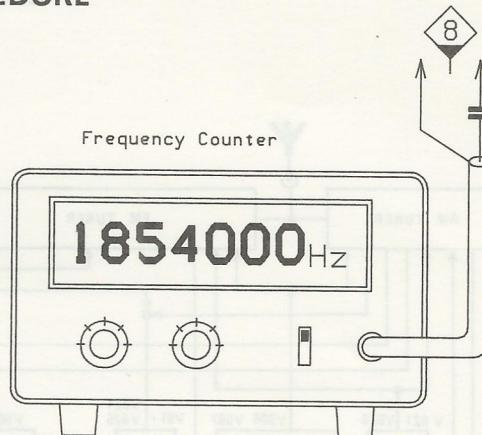

Fig. 1
- (b) Align trimmer capacitor C903 to have the indication of frequency counter be of 1854000Hz. Refer to Fig.1.